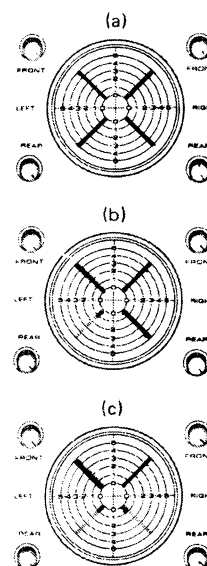

Fig. 17
2. Rotate the BALANCE controls for all 4 channels fully clockwise. See Fig. 17(a).
4. While observing the rear left of 4-CHANNEL LEVEL INDICATOR, adjust the Left CD-4 SEPARATION control for minimum indication. Separation is then optimum. See Fig. 17(b).
6. While observing the rear right of 4-CHANNEL LEVEL INDICATOR, adjust the Right CD-4 SEPARATION control for minimum indication. Separation is then optimum. See Fig. 17(c).